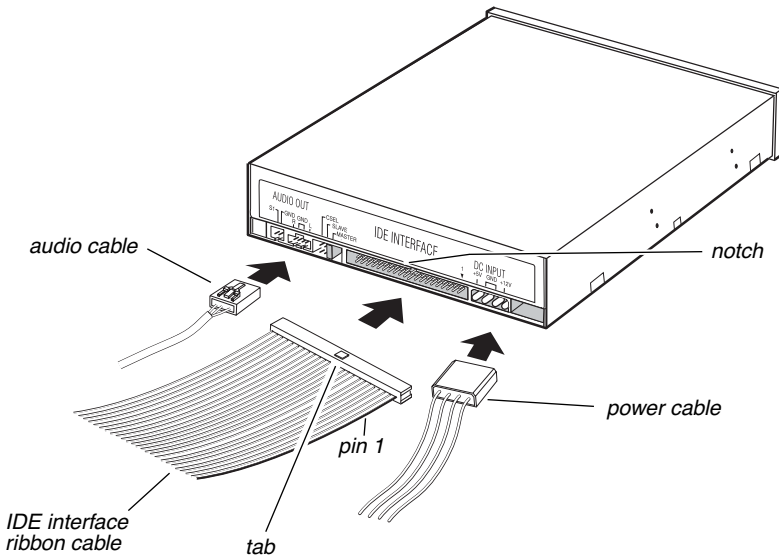

Figure 7. Cable Connections
- ⑩ interface connector:** Use the included IDE interface ribbon cable to connect the CD-RW drive to an IDE interface in your computer. (For more information, see “Installing the CD-RW Drive” on page 8 and Figure 7 on page 9.)
- ⑪ power connector:** Connect the power connector to the +5VDC and +12VDC power sources. The +5VDC terminal is on the left as you face the rear panel; the +12VDC terminal is on the right. The two center terminals are ground terminals. (For more information, see “Installing the CD-RW Drive” on page 8 and Figure 7 on page 9.)